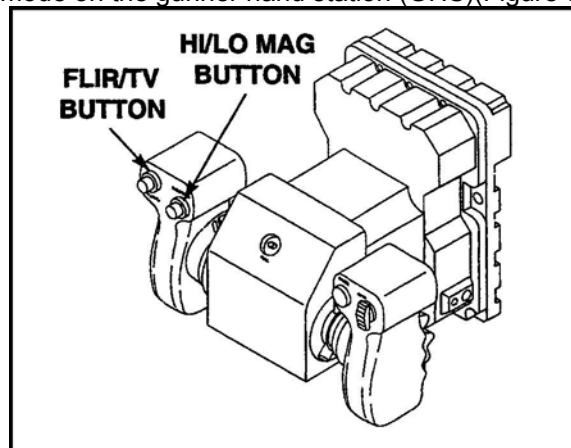

Figure 5. GHS FLIR/TV button.
- (1) Select FLIR mode on the gunner hand station (GHS)(Figure 5).